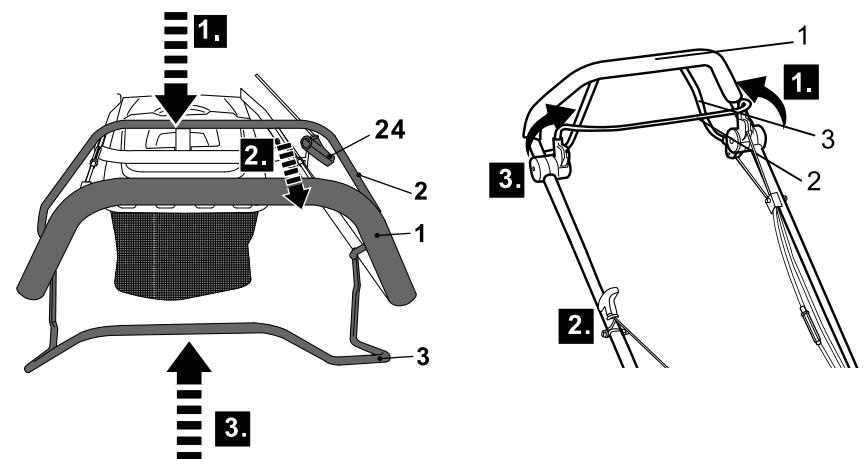

Fig. 20
1. Stand behind the handle (1).
2. Move the fuel valve lever (35) to position for the engine to run. When the engine is not in use, move the fuel valve lever (35) to the other side position (for preventing carburettor flooding and to reduce the possibility of fuel leakage).
3. Pull the brake bar (2) against the handle (1), hold it in position with one hand (Fig. 20, 1.).
4. Pull the recoil starter handle (24) lightly until you feel resistance then pull it rapidly. Do it again until the engine starts (Fig. 20, 2.).
5. When you are ready to mow, hold the brake bar (2) with both hands, and pull the drive bar (3) towards the handle (1) (Fig. 20, 3.). The product starts moving forward and begins mowing.